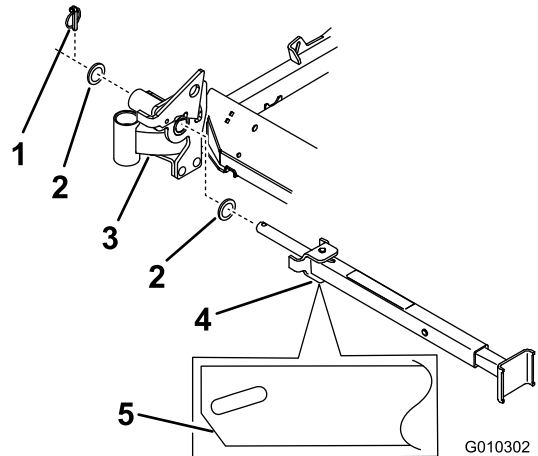

Figure 6
- Place a thrust washer onto the pivot pin (Figure 6).
Note: When inserting the pivot pin, make sure the position of slot in tube is as shown in and make sure the chamfer is facing forward (Figure 6).
- Place a thrust washer onto the pivot pin and secure it with a lynch pin (Figure 6).